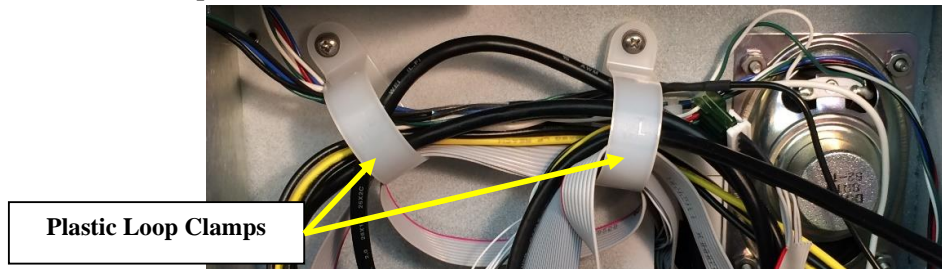

Figure 61
- 20.18. Hook the excess cable pulled up in Step 20.15, except for the Display Cable, into at least one of the Plastic Loop Clamps as shown in Figure 61. Temporarily remove the 4-40 Screw and #4 Lockwasher holding the Clamps and then reinstall with the Clamps closed.